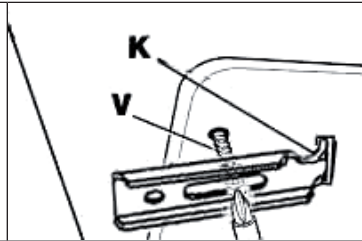

Figure 7
- Remove the strip of protective paper from the seal. Insert the hooks into their relative housings (K) on the hob and set this into the hole in the cabinet. Lock it in place with the relative fixing screws (V) (see figure 7).
- To access the terminal board and the power cable, it is necessary to remove the hob from the cabinet by unscrewing the relative fixing screws (V) (see figure 7).